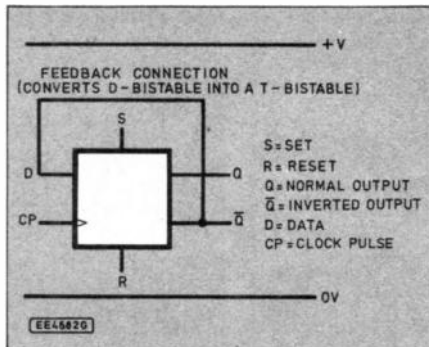

Fig. 6. Using a 4013 i.c. to produce a T-bistable.
How a T-bistable can be made with the aid of a CMOS 4013 i.c. is shown in Fig. 6. This i.c. actually contains two D-bistables. In brief, a D-bistable has a "data input" (D). Its normal output (known as Q) copies its data input at the instant its "clock input" (CP) is switched from 0V to positive.
How the \bar{Q} output can be connected to the "Data" input is shown in Fig. 6. This turns the D-bistable into a T-bistable. We will now describe more fully how the T-bistable works, and will begin by assuming that Q is "low" (0V), and therefore \bar{Q} is "high" (positive).